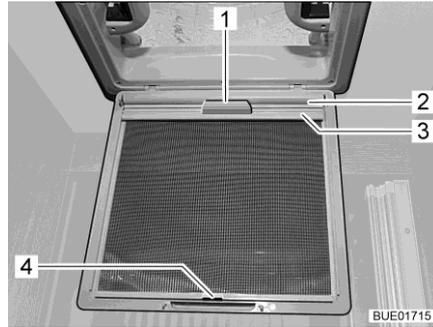

Fig. 27 Blind (skylight)
- Using the handle (Fig. 27,1), pull out the blind (Fig. 27,2) and hook the retainer (Fig. 27,3) into the hook (Fig. 27,4) on the insect screen.
- Release the retainer (Fig. 27,3) from the hook (Fig. 27,4) and, using the handle (Fig. 27,1), slowly return the blind (Fig. 27,2).